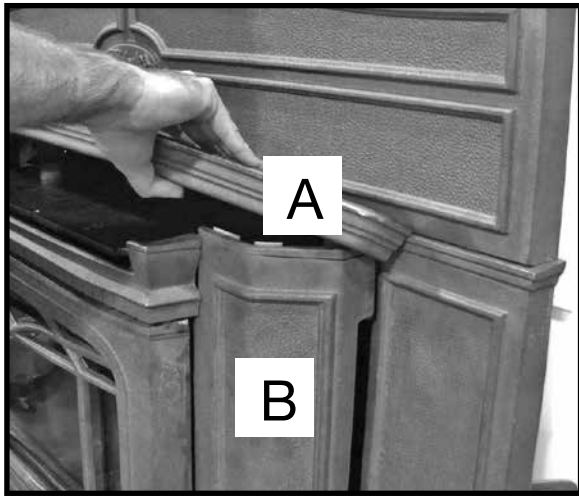

Figure 11: Removing top and fan shields.
2. Remove the Top (A) by lifting up. **Caution:** Support the Fan Shields (B) (Figure 11), they may fall. Remove Shields by lifting up and to the sides. Remove all packaging material from the Top and Fan Shields.